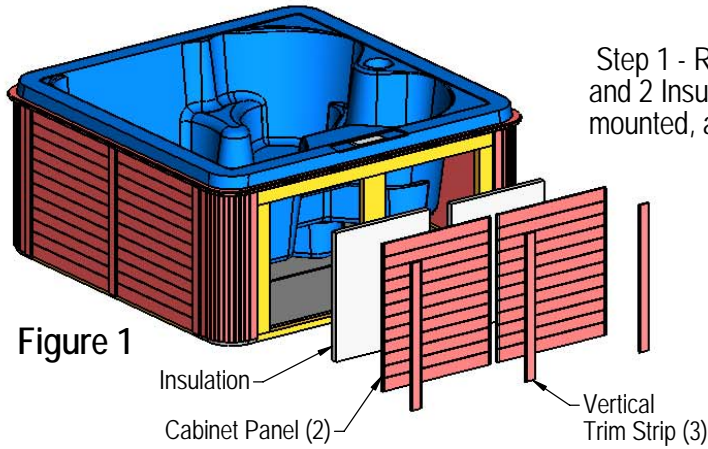

Figure 1
Step 1 - Remove the 3 Vertical Trim Strips, 2 Cabinet Panels and 2 Insulation Panels on the side that the Cover Shelf is to be mounted, as determined by customer. See Figure 1 at left.